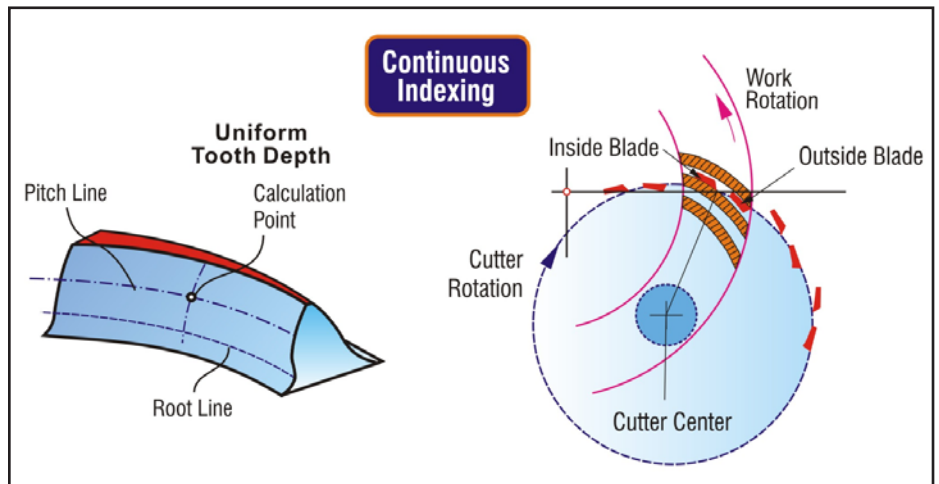

Figure 4 Continuous indexing (face hobbing) Formate.
**Macrogeometry of face hobbled bevel gears.** Face hobbled gearsets are manufactured as continuous indexing; while the outside blade and following inside blade of one blade group cut one slot, the following blade group will enter the next slot (Fig. 4, right). This is accomplished by the simultaneous rotation of the cutter and workpiece, where the work rotates per cutter revolution for as many pitches as the cutter has starts. The resulting mathematical function of the flank lines of a plane generating gear is an extended epicycloid. In this case the curvature radius of the flank line is increasing from toe to heel and the average curvature depends not only on the cutter radius, but also on the number of starts of the cutter head (see also original text chapters 2.3 and 2.4).